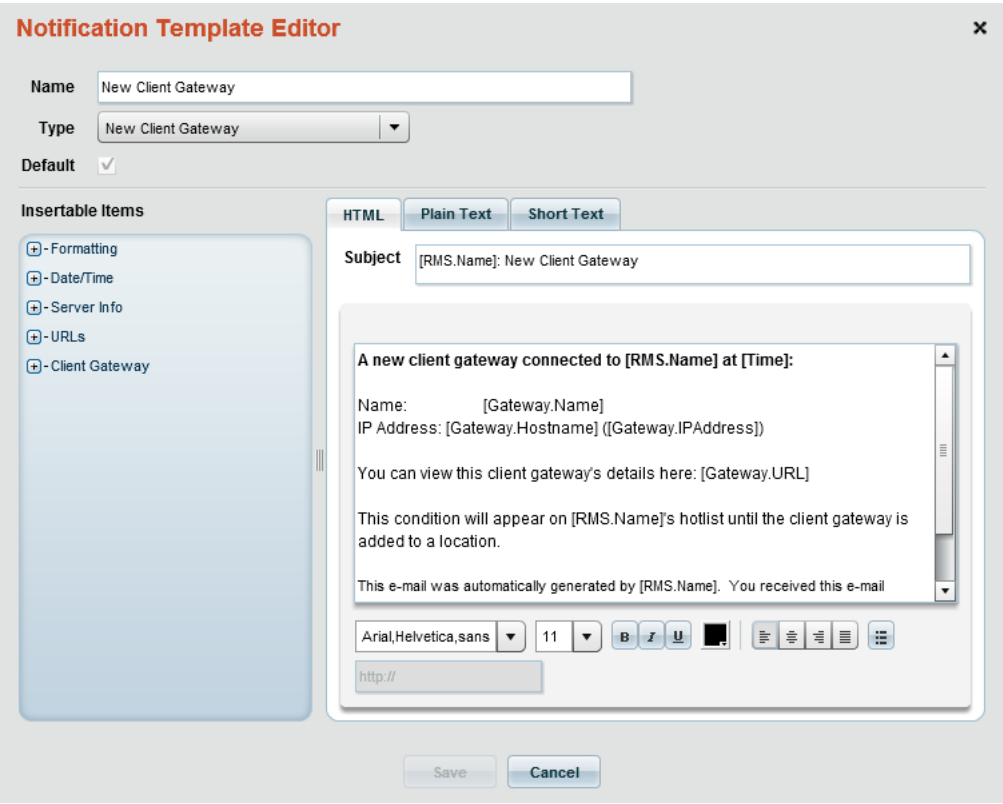

FIG. 385 Notification Template Editor dialog
The *Notification Template Editor* dialog is accessed via either the **Add** or **Edit** buttons in the *Notification Templates* window. FIG. 385 shows the *Notification Template Editor* dialog populated with example data from a selected Notification Template.
1. In the *Notification Templates* window, click the **Add** button. This invokes the *Notification Template Editor* dialog (FIG. 385).
2. Click the **Edit** button. This invokes the *Notification Template Editor* dialog (FIG. 385 on page 238).